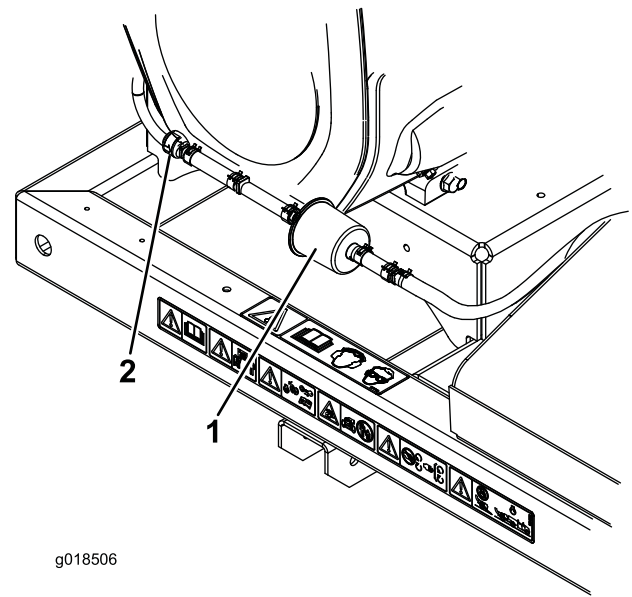

Figure 17
2. Move the spring-type hose clamps on both sides of the carbon canister purge-line filter away from the filter (Figure 17).
3. Remove and discard the carbon filter (Figure 17).
4. Install a new filter into the hose with the arrow on the filter pointing towards the check valve and secure it with the hose clamps (Figure 17).